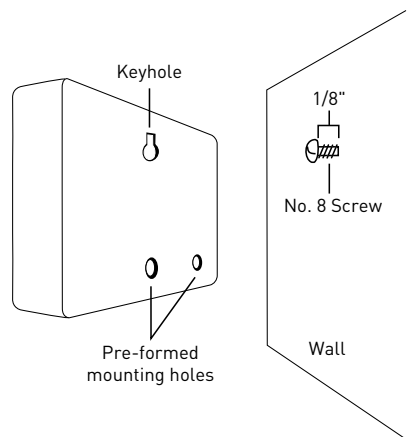

Figure 2: Hang timer on screw using keyhole
- Slip the timer over protruding screw (using keyhole slot in back of timer). See figure 2
- Drive a No. 8 screw through one of the two pre-formed holes located in lower back cabinet. See figure 2